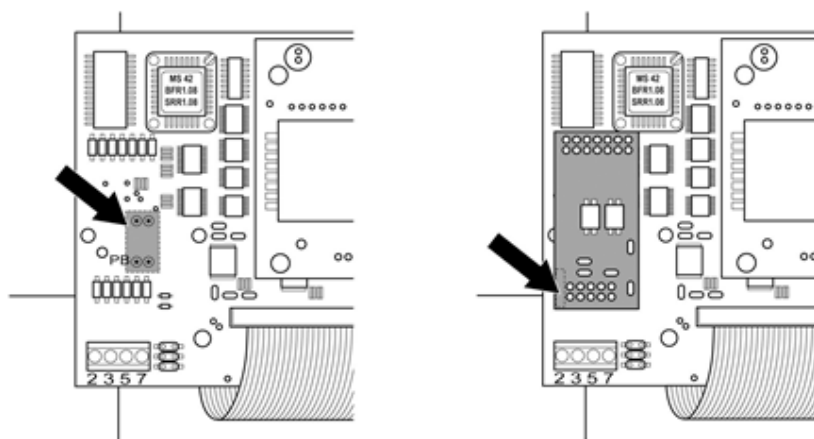

Figure 3: Control board before and after installation of the piggyback
2. The Piggy Back has to be installed on the inverter’s circuit board aligned to the left side under the pin contract strip (Figure 3, left).
The print „unten [down]“ on the board has to be visible on the bottom left-hand side (Figure 3, right).